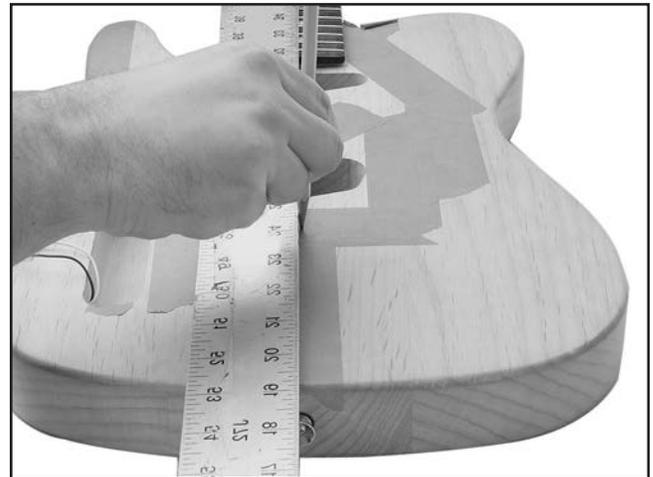

Figure 12. Marking center line.
6. Place a long straightedge over the center of the fretboard inlays and over the bridge cavity, and mark the center line on the guitar body (see **Figure 12**).